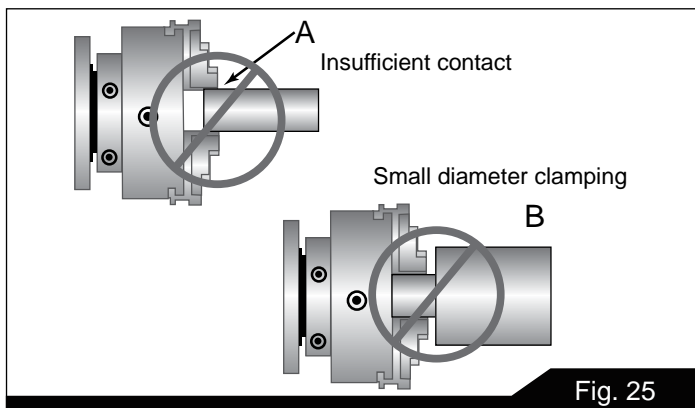

Fig. 25
- Avoid short clamping contact (Figure 25, A) or clamping on a minor part diameter (Figure 25, B). Face-locate the workpiece for added support.